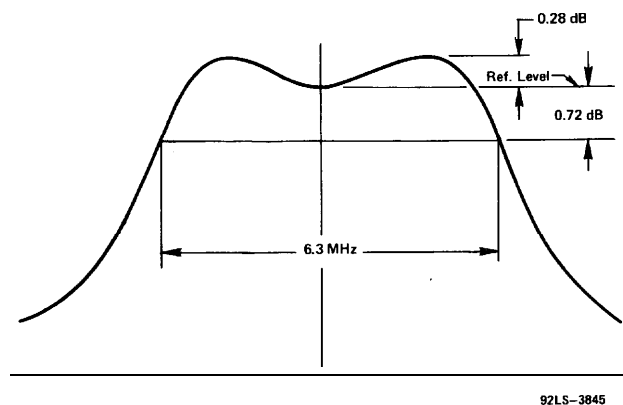

Figure 4 - Bandwidth Calculation
13. The bandwidth of 6.3 MHz is calculated at the -0.72 dB power points of a double tuned output circuit using two times the tube output capacity and a damping factor of $\sqrt{1.5}$ as shown in **Figure 4**.